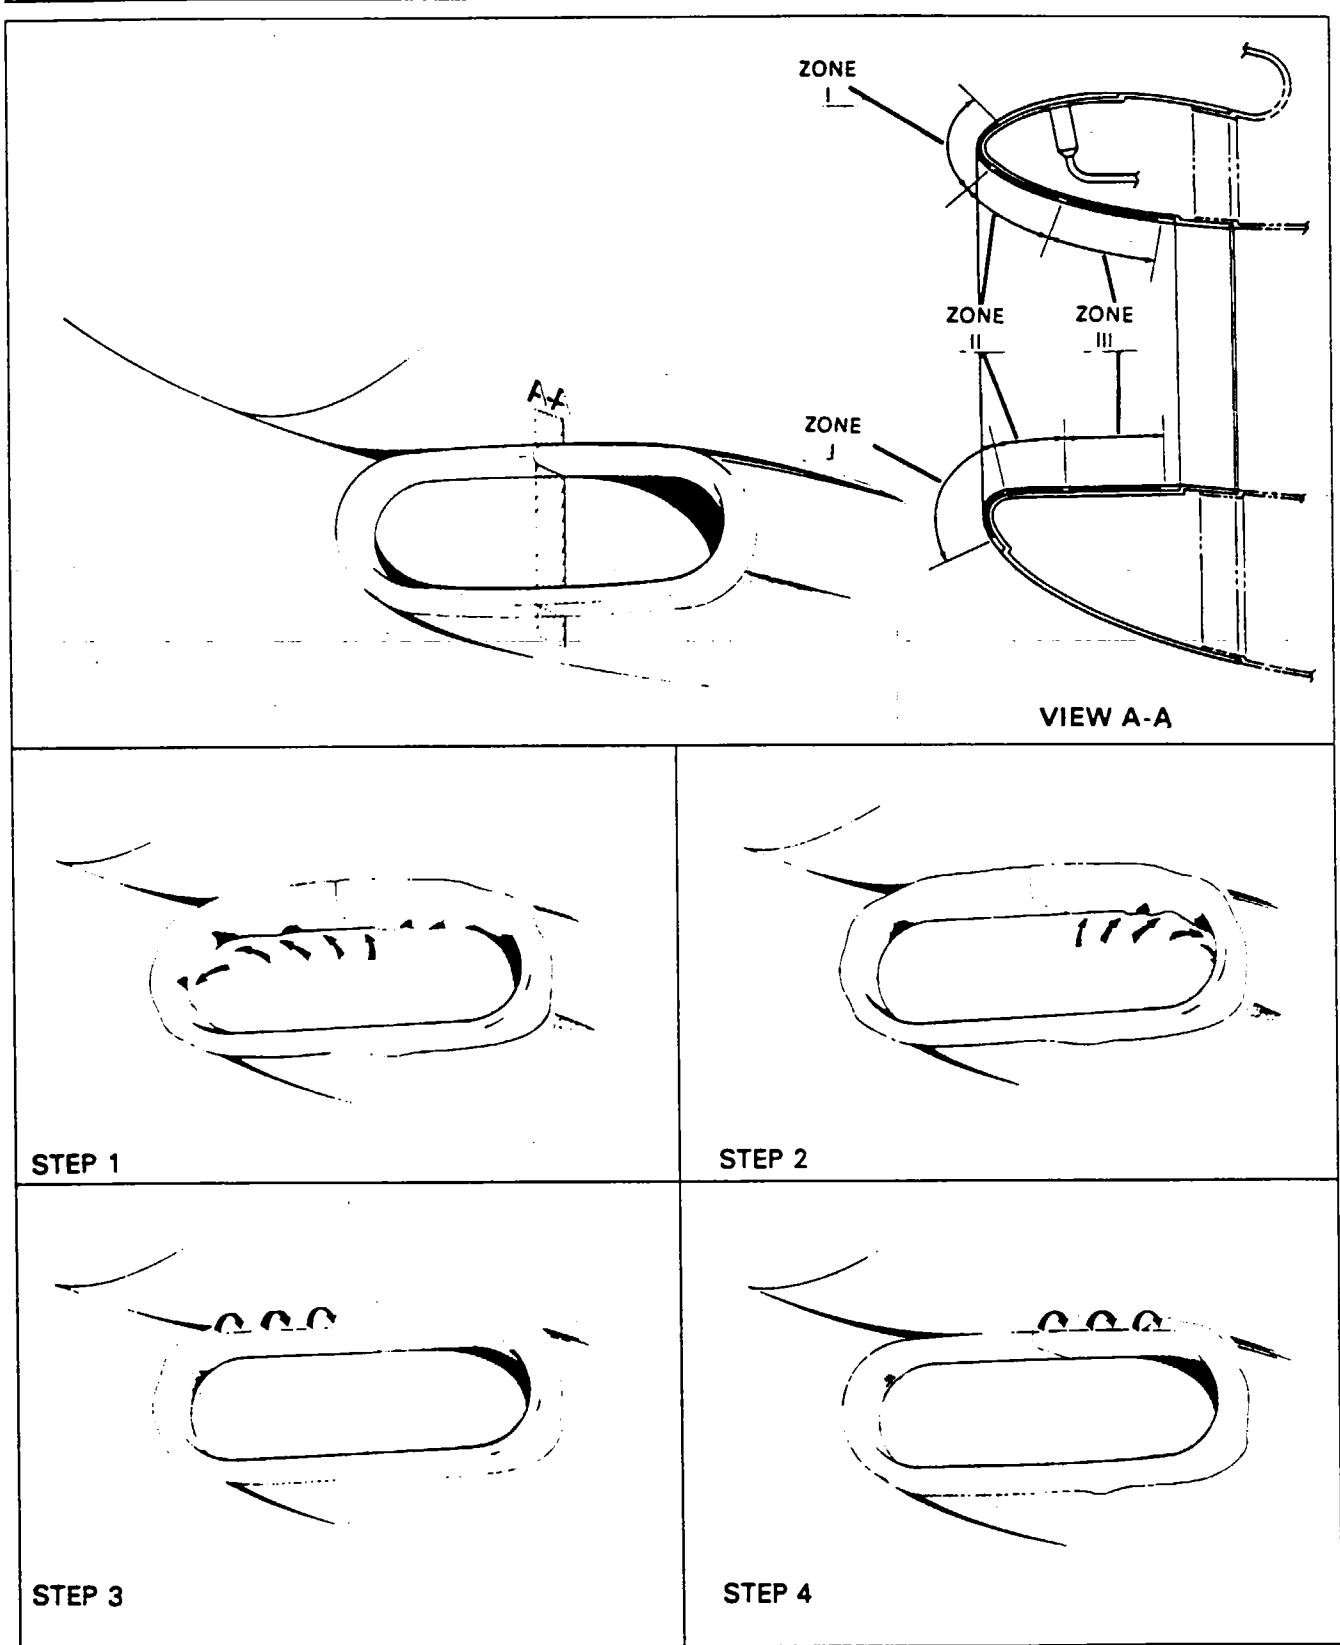

Figure 30-15. Engine Air Inlet Lip Deicer Installation
INSTALLATION OF DEICER AND REQUIRED MATERIALS. (Refer to Figure 30-15.)
12. Apply masking tape around the edges of the inlet where the boot meets the fiberglass edges. (See Figure 30-15, View A-A.) to prevent sealer from contacting any areas beyond the deicer boot edges.
2. Check the electrical resistance of each of the elements by checking between each pin in the plug and the ground lead. Pin 1 is the Parting Strip element; Pin 2 is the Shedding Area I element and Pin 3 is the Shedding Area II Element. Refer to Figure 30-15 and Chart 3006.